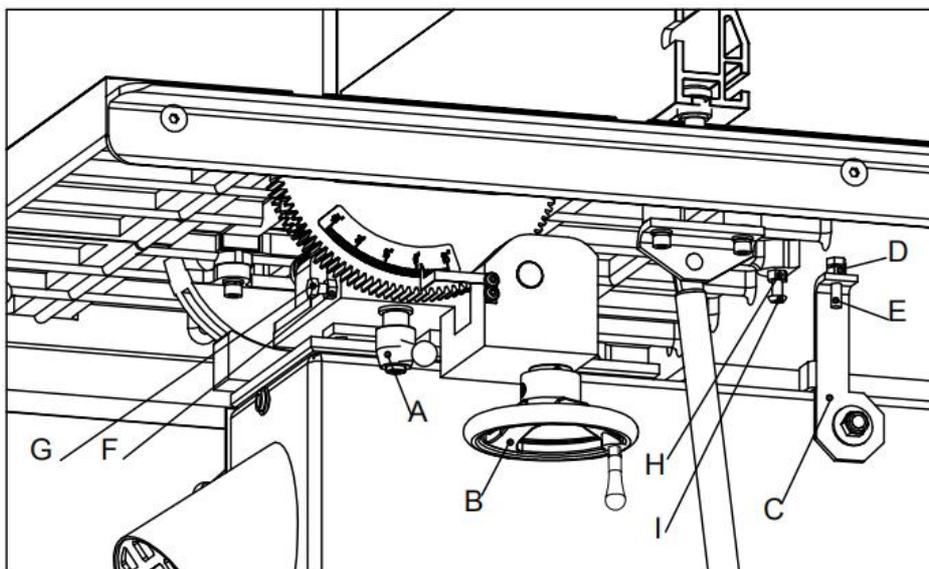

Fig. 13
6.3.1 Table Tilt (Refer to Figure 13.)
2. Loosen the table tilt locking handle (A).
3. To tilt the table right, rotate the table tilt hand wheel (B) to tilt the table up to 45°.
4. To tilt the table left, swing the table support (C) down, then rotate the hand wheel (B) to tilt the table up to -15°.
5. Tighten the locking handle (A) to secure the setting.
6.3.2 Table Stop Set Up (Refer to Figure 13.)